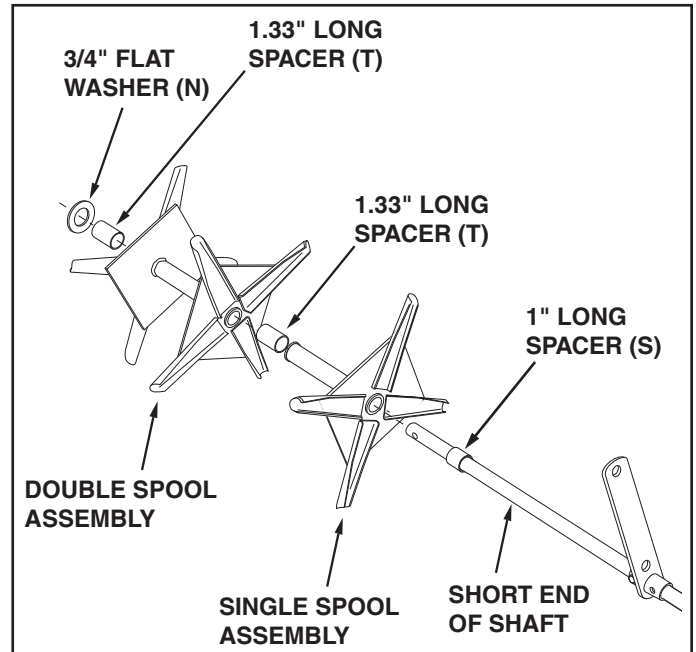

FIGURE 3
4. Identify the short end of the shaft. Assemble a 1" long spacer (S), a single spool assembly, a 1.33" long spacer (T), a double spool assembly, another 1.33" long spacer (T) and a 3/4" flat washer (N) onto the **short end** of the shaft. See figure 3.